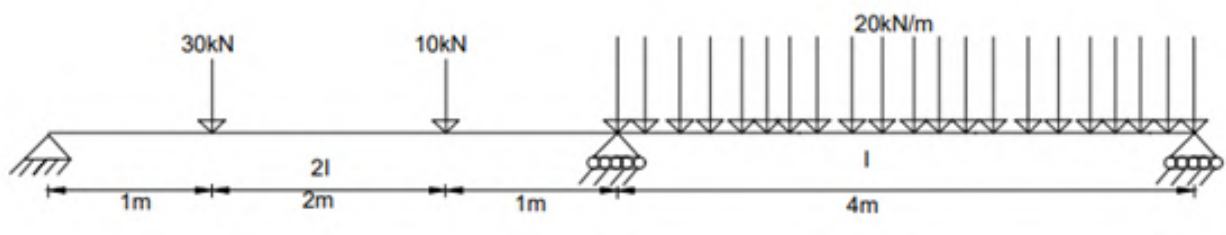

Figure 1:
1. a) Structures may be solved by either stiffness matrix method or flexibility method. Generally stiffness matrix is preferred. Explain. (3)
- b) Analyse the continuous beam shown in Figure 1 using Direct stiffness method. (7)